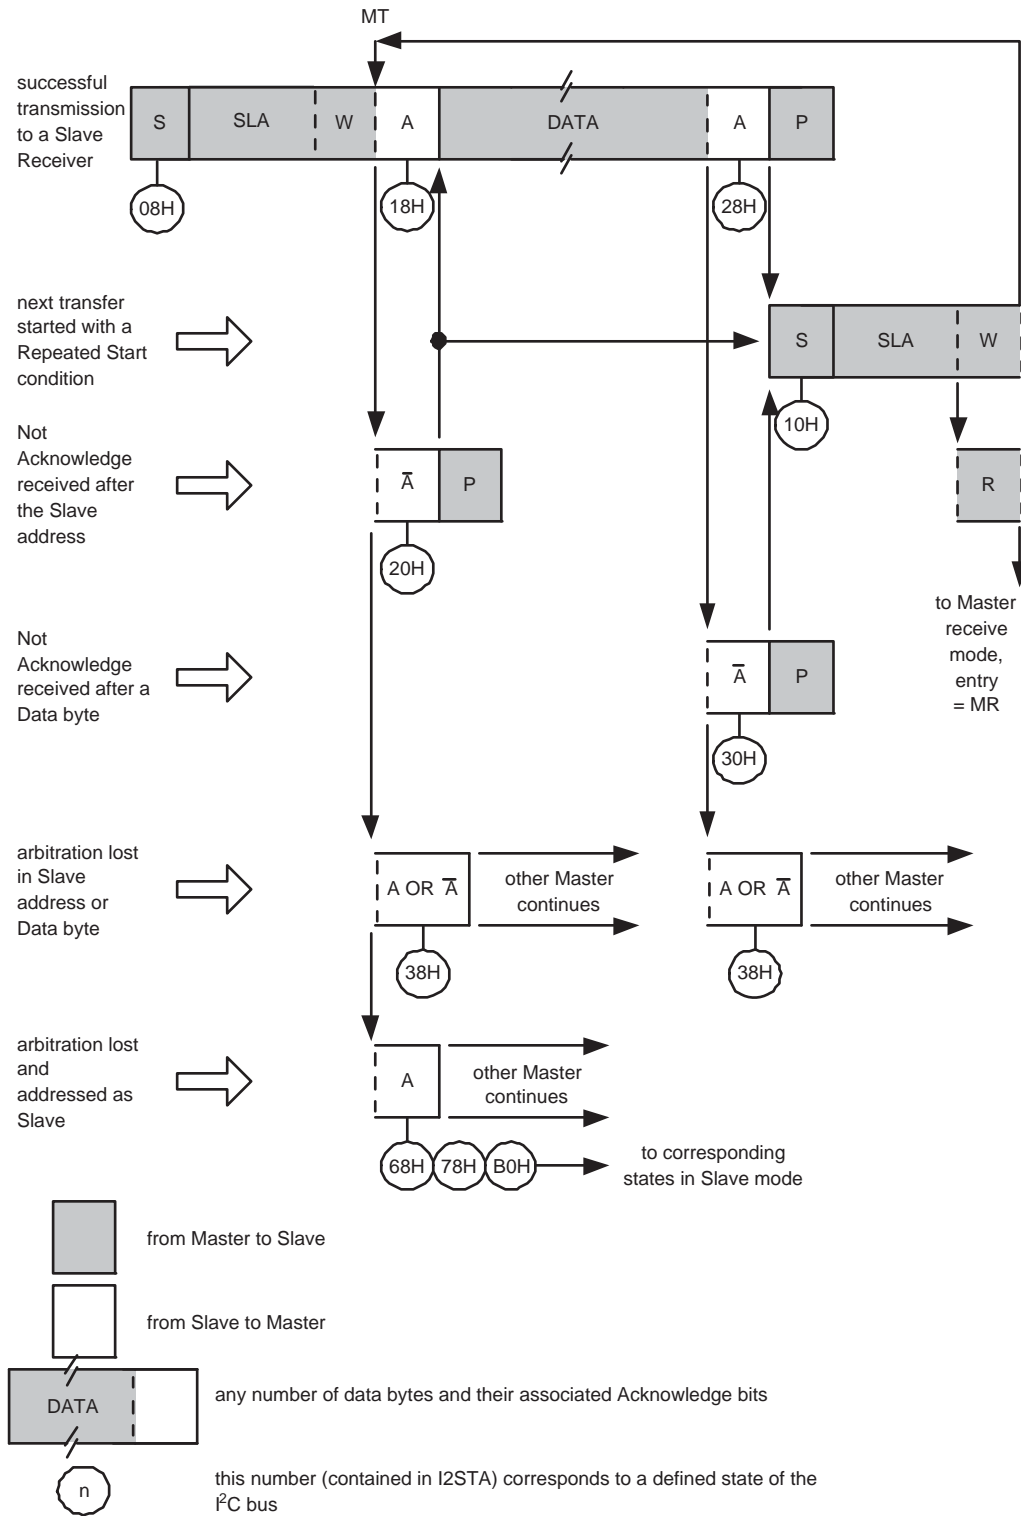
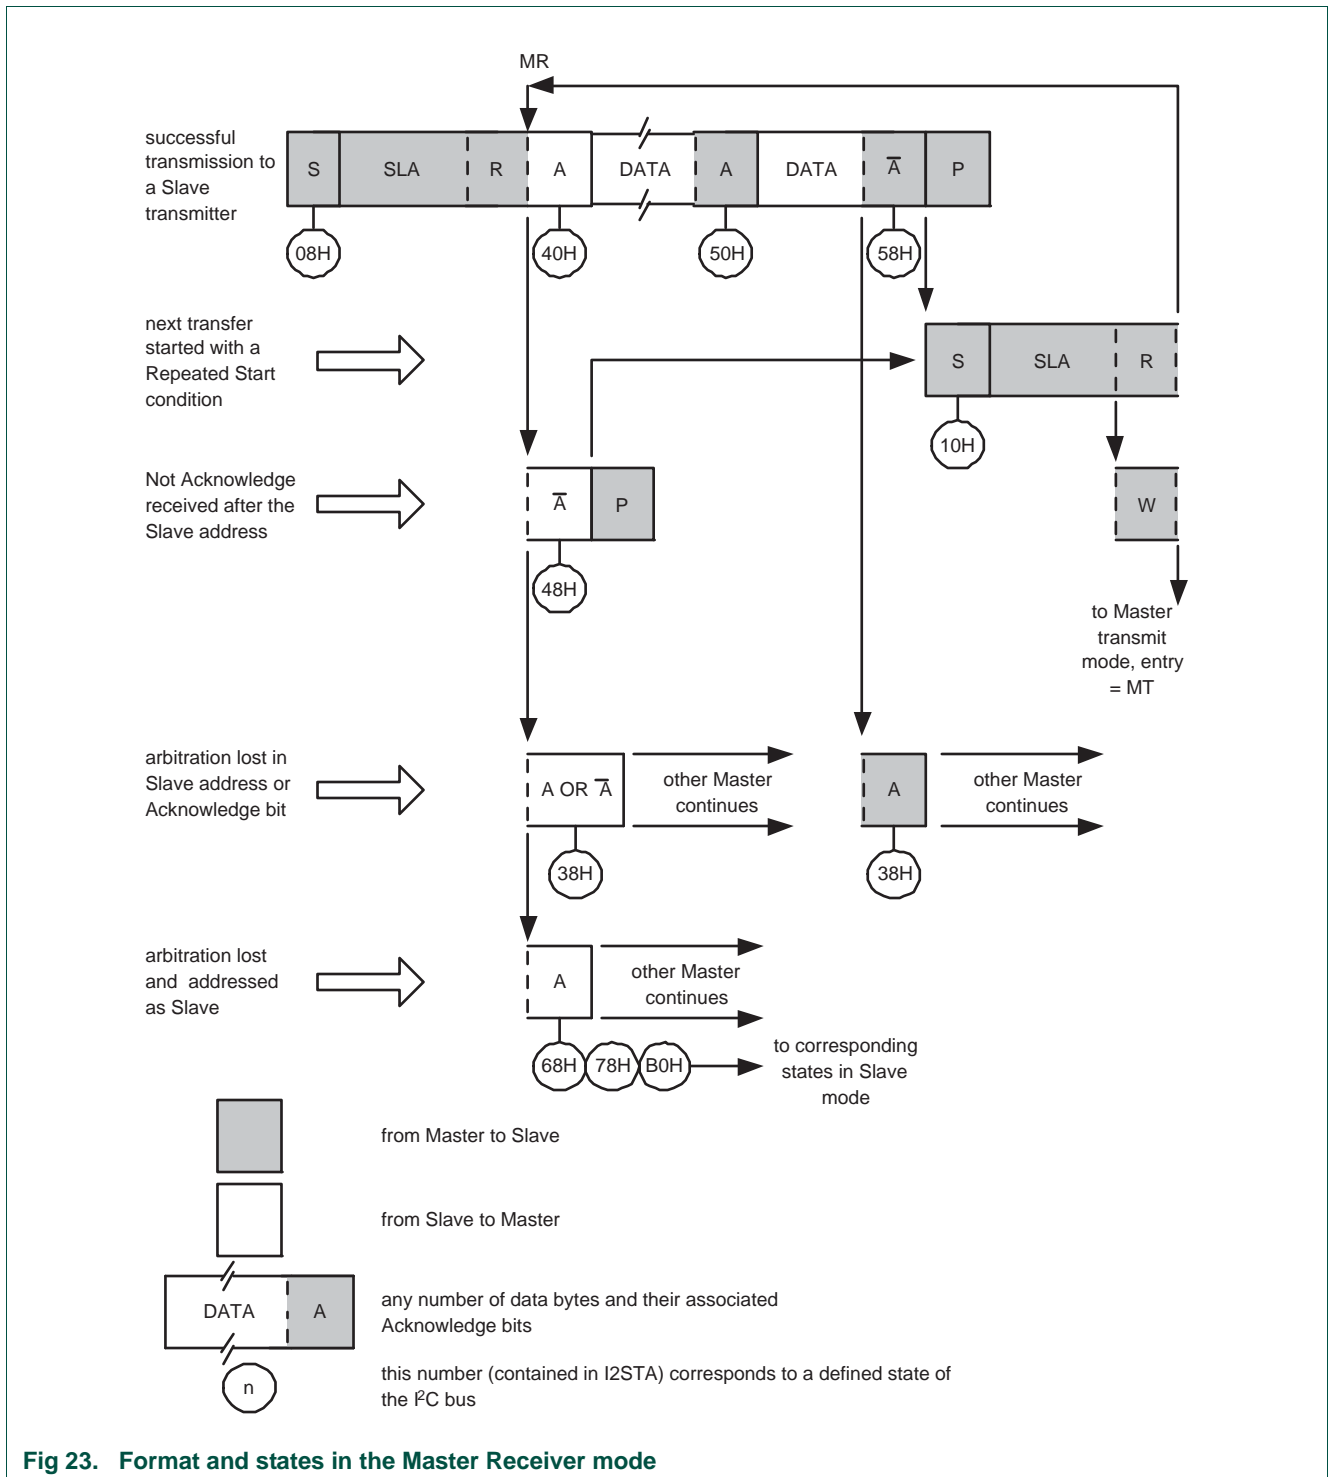
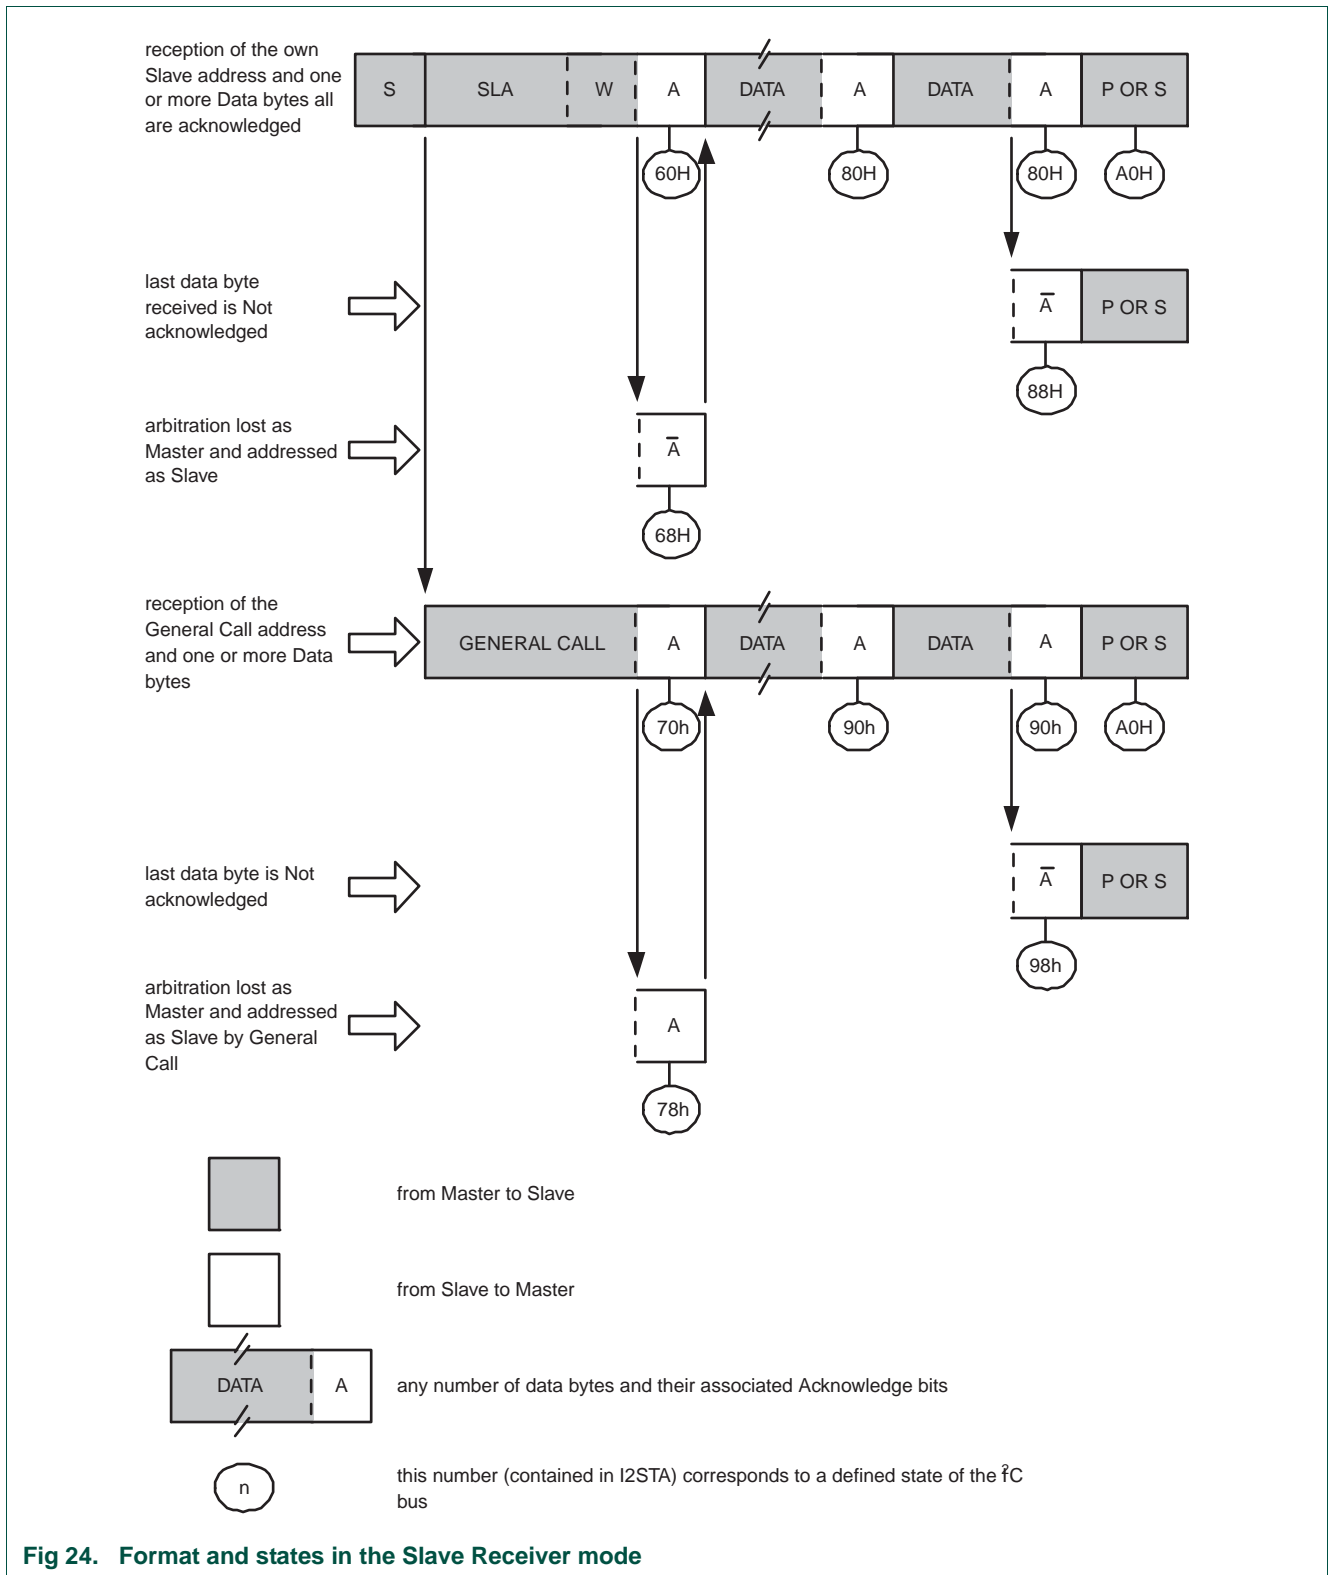
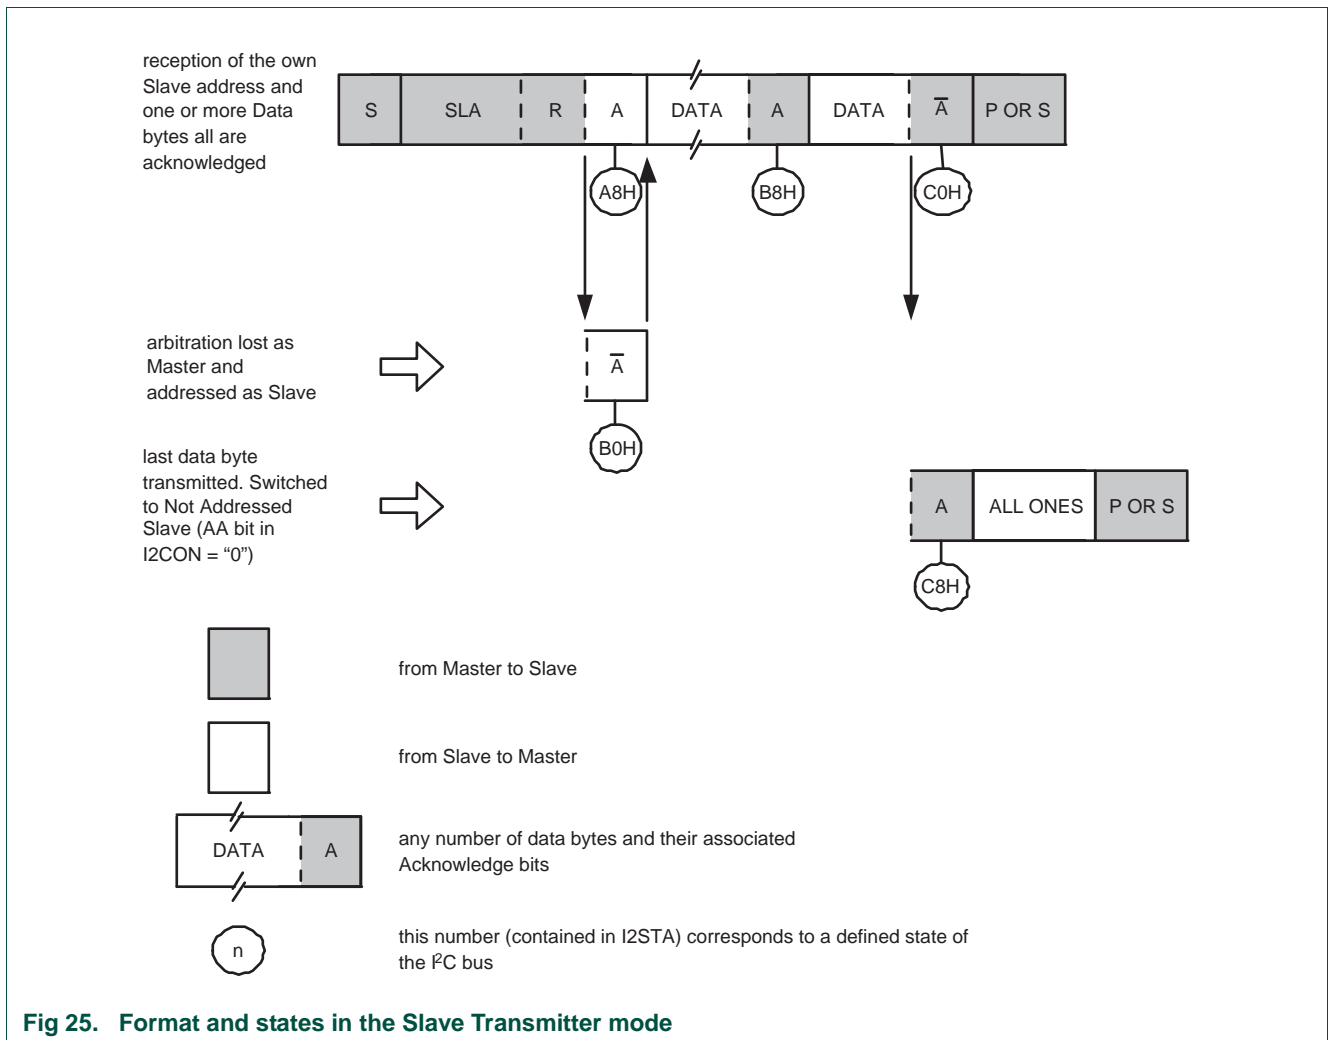

Fig 22. Format and states in the Master Transmitter mode
Fig 23. Format and states in the Master Receiver mode
Fig 24. Format and states in the Slave Receiver mode
Fig 25. Format and states in the Slave Transmitter mode
Data transfers in each mode of operation are shown in Figure 22, Figure 23, Figure 24, Figure 25, and Figure 26. Table 197 lists abbreviations used in these figures when describing the I²C operating modes.
In Figure 22 to Figure 26, circles are used to indicate when the serial interrupt flag is set. The numbers in the circles show the status code held in the STAT register. At these points, a service routine must be executed to continue or complete the serial transfer. These service routines are not critical since the serial transfer is suspended until the serial interrupt flag is cleared by software.
In the master transmitter mode, a number of data bytes are transmitted to a slave receiver (see Figure 22). Before the master transmitter mode can be entered, CON must be initialized as follows:
In the master receiver mode, a number of data bytes are received from a slave transmitter (see Figure 23). The transfer is initialized as in the master transmitter mode. When the START condition has been transmitted, the interrupt service routine must load DAT with the 7-bit slave address and the data direction bit (SLA+R). The SI bit in CON must then be cleared before the serial transfer can continue.
In the slave receiver mode, a number of data bytes are received from a master transmitter (see Figure 24). To initiate the slave receiver mode, CON register, the ADR registers, and the MASK registers must be configured.
In the slave transmitter mode, a number of data bytes are transmitted to a master receiver (see Figure 25). Data transfer is initialized as in the slave receiver mode. When ADR and CON have been initialized, the I²C block waits until it is addressed by its own slave address followed by the data direction bit which must be “1” (R) for the I²C block to operate in the slave transmitter mode. After its own slave address and the R bit have been received, the serial interrupt flag (SI) is set and a valid status code can be read from STAT. This status code is used to vector to a state service routine, and the appropriate action to be taken for each of these status codes is detailed in Table 203. The slave transmitter mode may also be entered if arbitration is lost while the I²C block is in the master mode (see state 0xB0).